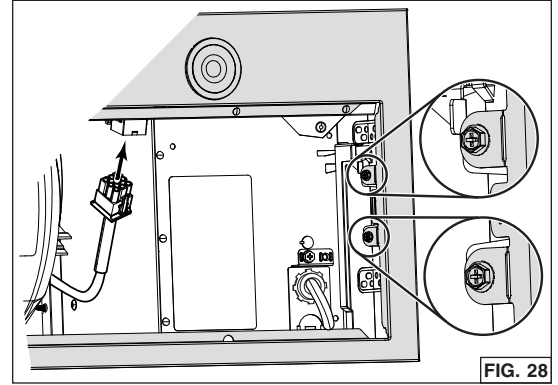

FIG. 28
- 6. Reinstall and secure the faceplate to the unit using its 4 retaining screws (two per side, circled in FIG. 28). Plug the blower cable to its connector on faceplate (FIG. 28).